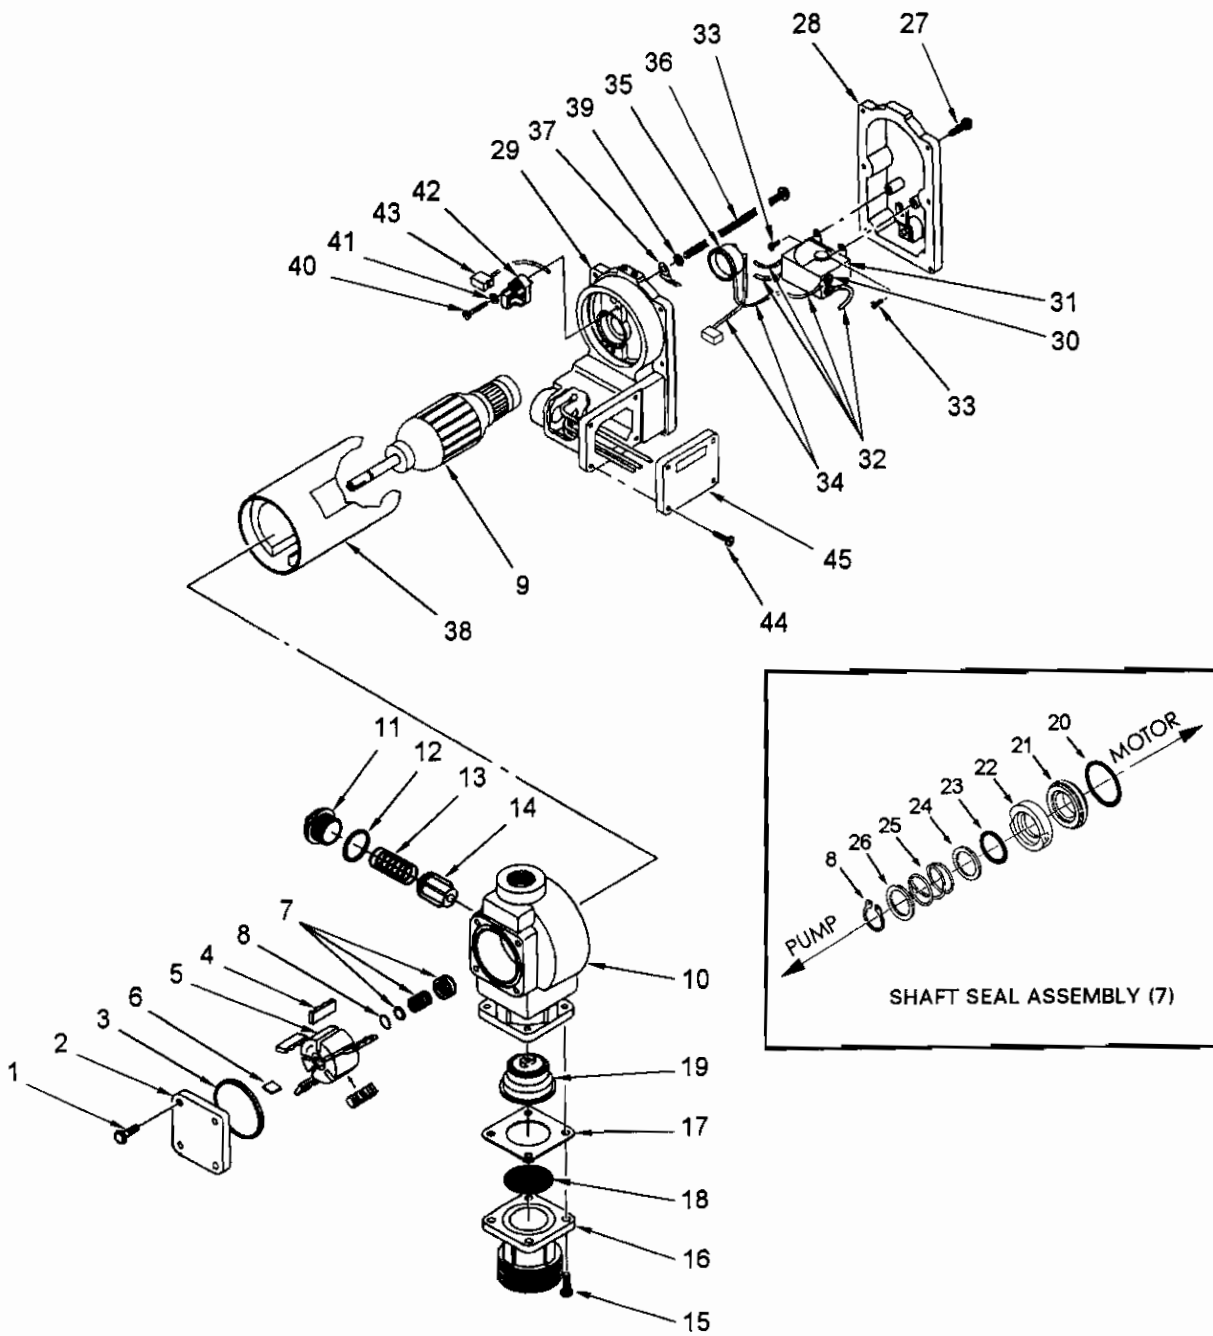

Figure 5-3. Auxiliary Pump
5.4 REPAIR AUXILIARY PUMP. (Refer to figure 5-3.)
Do not allow components of the shaft seal assembly (7) or the snap ring (8) to drop into pump cavity as components are installed. During installation of shaft seal assembly note the exploded view of the shaft seal assembly included as an inset on figure 5-3.
- (9) Install shaft seal assembly (7) on armature (9) shaft as follows.
- (a) Install large O-ring (20) on armature (9) shaft, seating large O-ring (20) against rear wall of pump housing (10)
- (b) Install black carbon ring (21) with flat surface facing out.
- (c) Install white ceramic ring (22) with notched surface facing out.
- (d) Install small O-ring (23).
- (e) Install washer (24).
- (f) Install spring (25).
- (g) Install washer (26).
- (10) Install snap ring (8) that secures shaft seal assembly (7) to armature (9) shaft.
- (11) Slide rotor (5) on armature (9) shaft over shaft seal assembly (7).